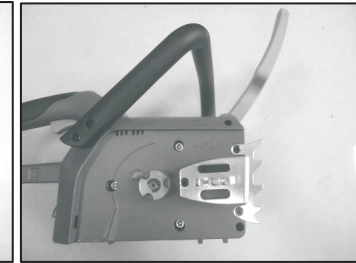

Fig.2B
4. Then take off the side cover. (Fig.2B)